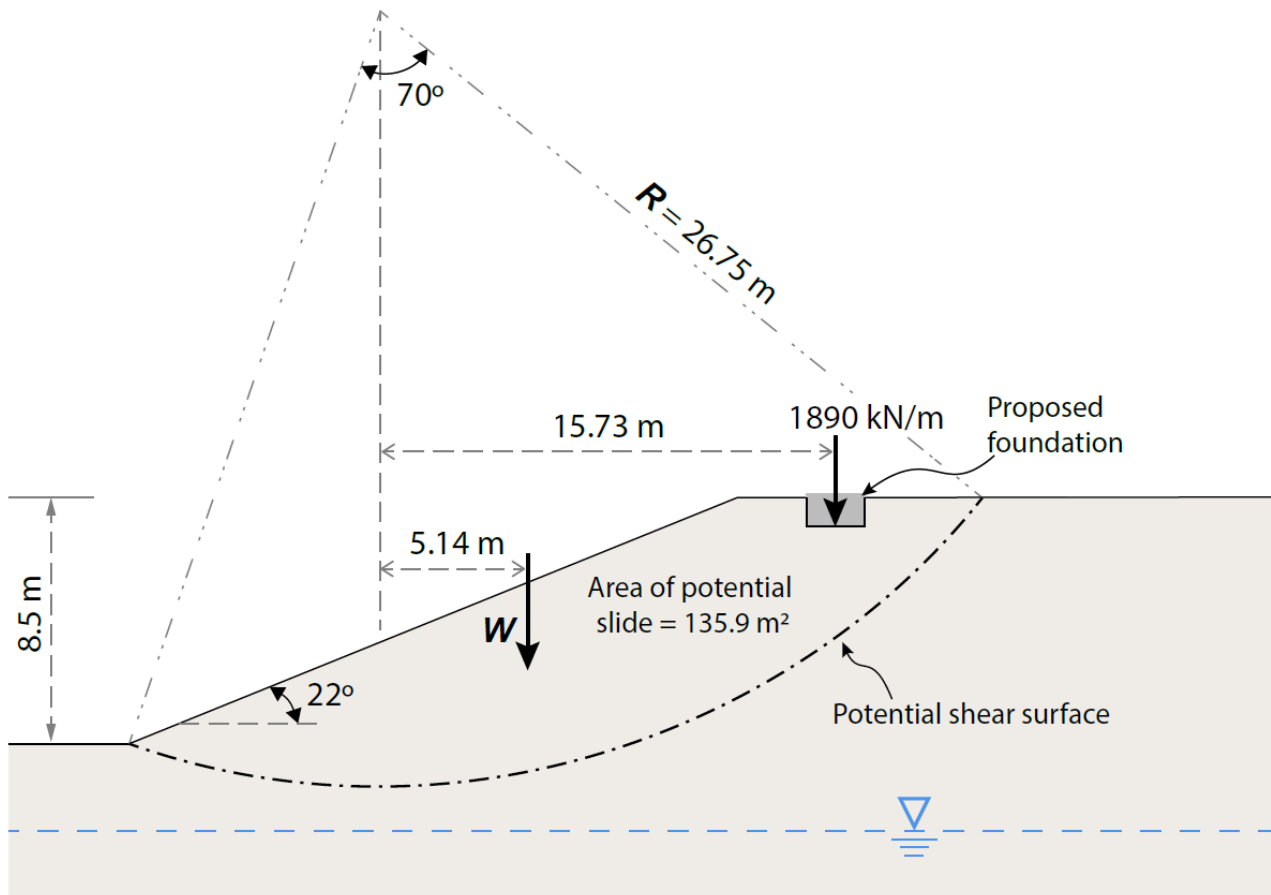

Figure QB1. Annotated slope cross-section
- b) **Figure QB1** shows an annotated cross-section of a CLAY slope. A client is proposing a development on the crest (top) of the slope, which would comprise a foundation (shown in **Figure QB1**) subject to a vertical load of 1890 kN (per metre length of the foundation). The CLAY has a bulk unit weight of 20 kN/m³ and an undrained shear strength of 50 kPa.
- Determine the factor of safety against undrained shear failure for the potential circular shear surface shown in **Figure QB1** before the proposed development (i.e. without the foundation and its associated vertical load).